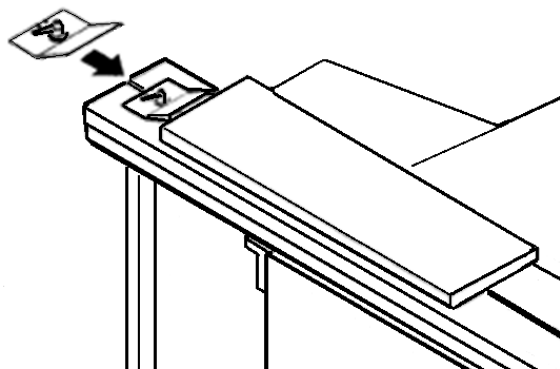

Fig 17.2
**Trimming with back stop (Fig 17.2).**